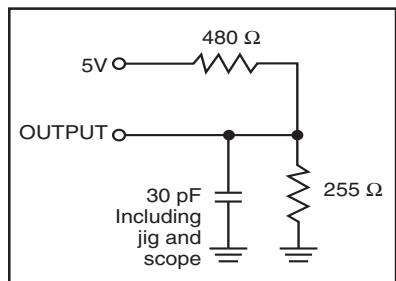

Figure 1
- Test conditions assume signal transition times of 3 ns or less, timing reference levels of 1.5V, input pulse levels of 0 to 3.0V and output loading specified in Figure 1.
Output Load	See Figures 1 and 2
1. Test conditions assume signal transition times of 3 ns or less, timing reference levels of 1.5V, input pulse levels of 0 to 3.0V and output loading specified in Figure 1.